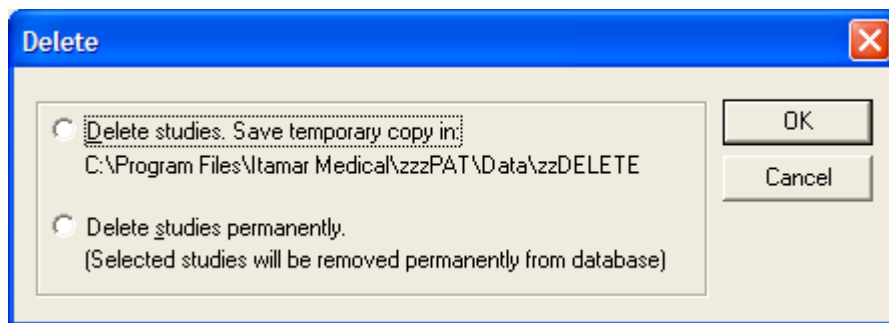

Figure 84 - Delete studies options Dialog box
- The **Delete** function has two options, as seen in Figure 84.